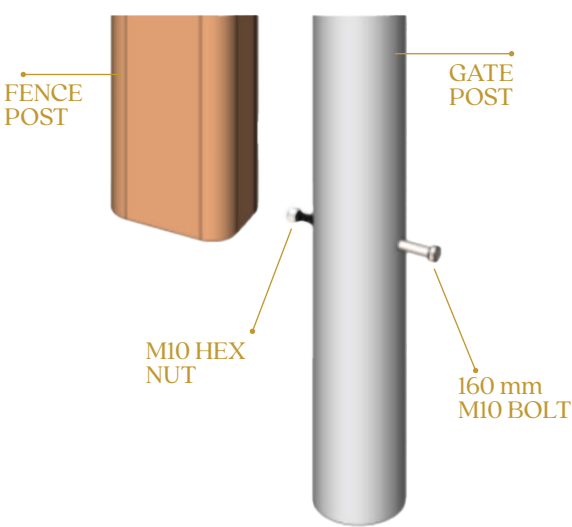

Figure 2
- 2. To prep the gate post, slide the 160 mm M10 bolt through the pre-drilled hole to anchor the bottom of the heavy round gate post, then screw the M10 hex nut on to the bolt. (Figure 2)